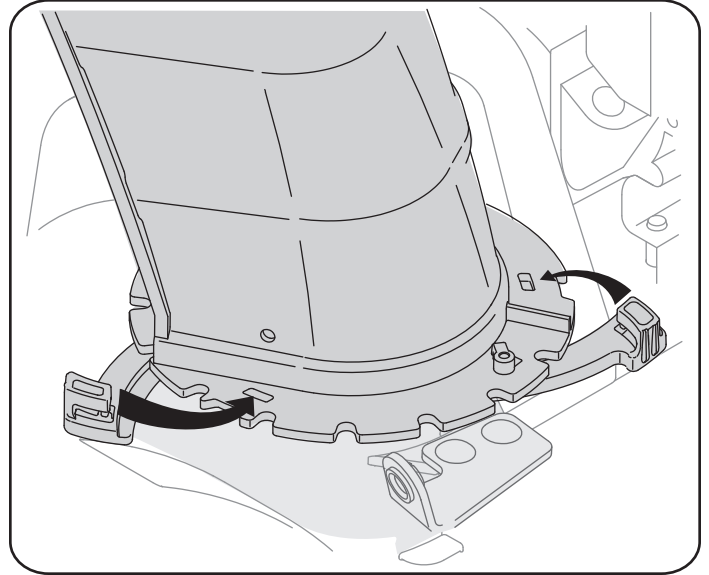

Figure 4
4. Close the flange keepers to secure the chute assembly to the chute base. See Figure 4. The flange keepers will click into place when properly secure.